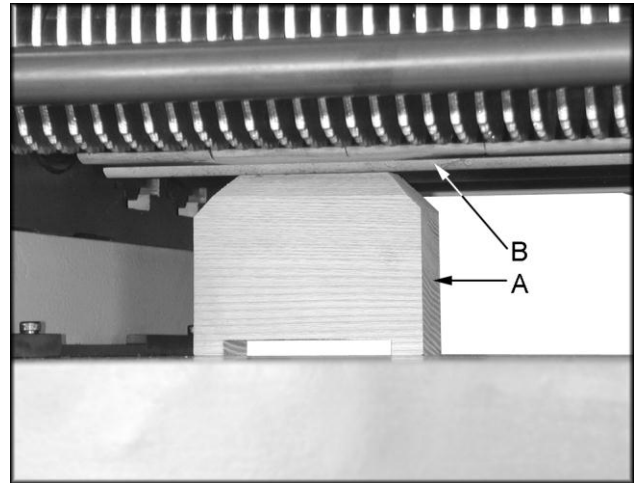
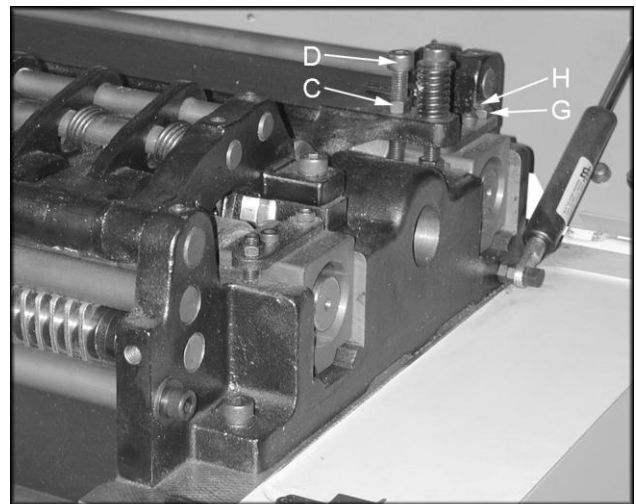
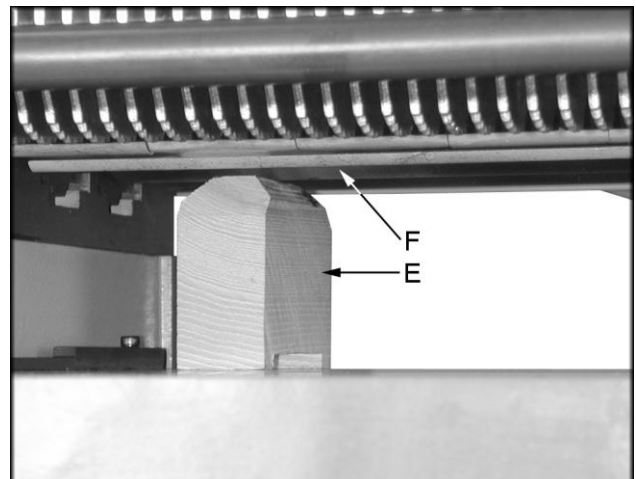

Figure 16
Figure 17
Figure 18
3. Place wood block (A, Figure 16) under the left side of pressure bar (B, Figure 16). The top of wood gauge should just contact the pressure bar. If it doesn't, loosen jam nut (C, Figure 17) and turn the adjusting screw (D, Figure 17) to raise, or lower the pressure bar until it contacts wood gauge. Repeat for opposite side of the pressure bar.
3. Remove feeler gauge and place wood block (E, Figure 18) under the left side of out-feed roller (F, Figure 18). The top of wood gauge should just contact the out-feed roller. If it doesn't, loosen jam nut (G, Figure 17) and turn the adjusting screw (H, Figure 17) to raise, or lower the out-feed roller until it contacts wood gauge.